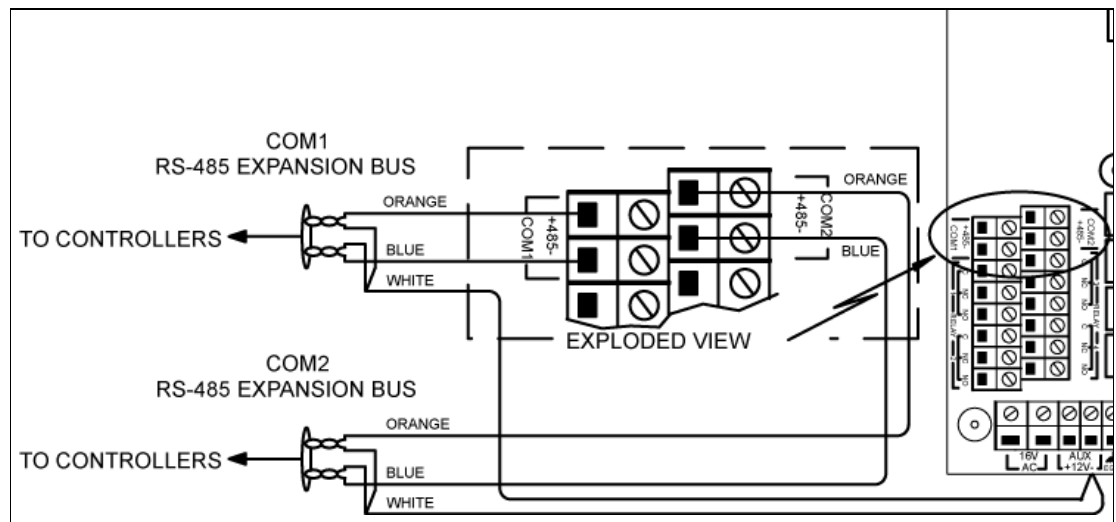

Figure 4. RS-485 Connection
1. The two RS-485 terminals (labeled COM 1 and COM 2) can be found next to the relay terminals at the bottom of the left side of the KT-NCC board. Wire the loops according to Figure 4 on Page 11 below: The orange wire connects into the + terminal; the blue wire connects into the - terminal; and the white wire connects to the **AUX 12V-**.